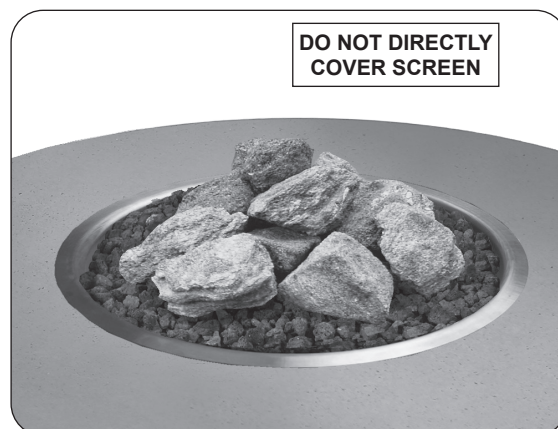

Fig. 43-2 Volcanic stones option
2. Pour the volcanic stones evenly into the burner area (see Fig. 43-2). The stones may form a mound. **Store any excess media in a safe location.**